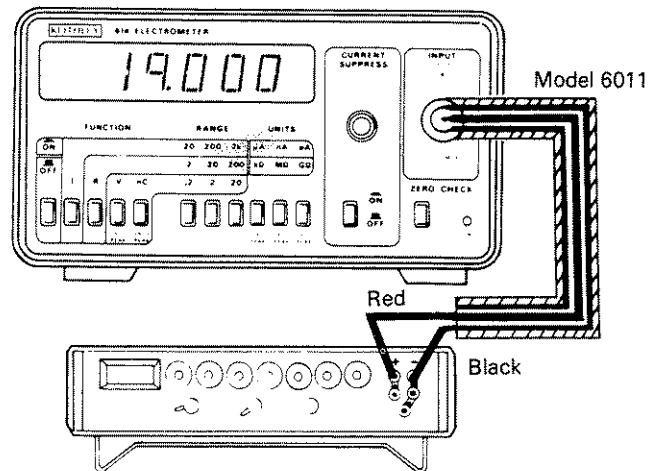

Figure 4-1. DC Volts Verification
1. Depress ZERO CHECK and select Volts (V).
3. Apply input (see Figure 4-1) as specified in Table 4-2. Release ZERO CHECK.